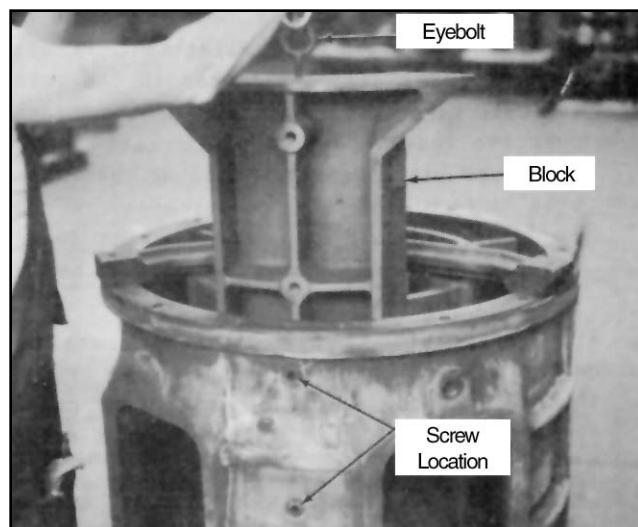

Figure 19
- Normally it is not necessary to remove the block from the meter case. However, if it is desired, the block can be taken out by removing the screws from the side of the housing and lifting out the block with an eye bolt and a lifting device, Figure 19.